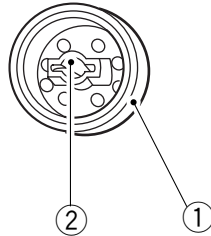

Figure 5-708
When attaching the pick-up roller ①, attach it so that the side ② shown in Figure 5-708 is toward the rear.